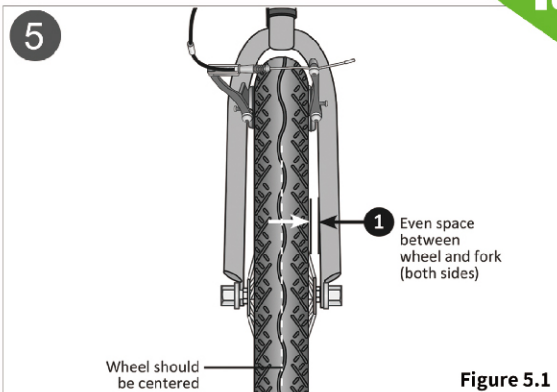

Figure 5.1
- ① If you see the gap between the fork and wheel is uneven loosen the axle nuts and adjust the wheel until centered. Figure 5.1